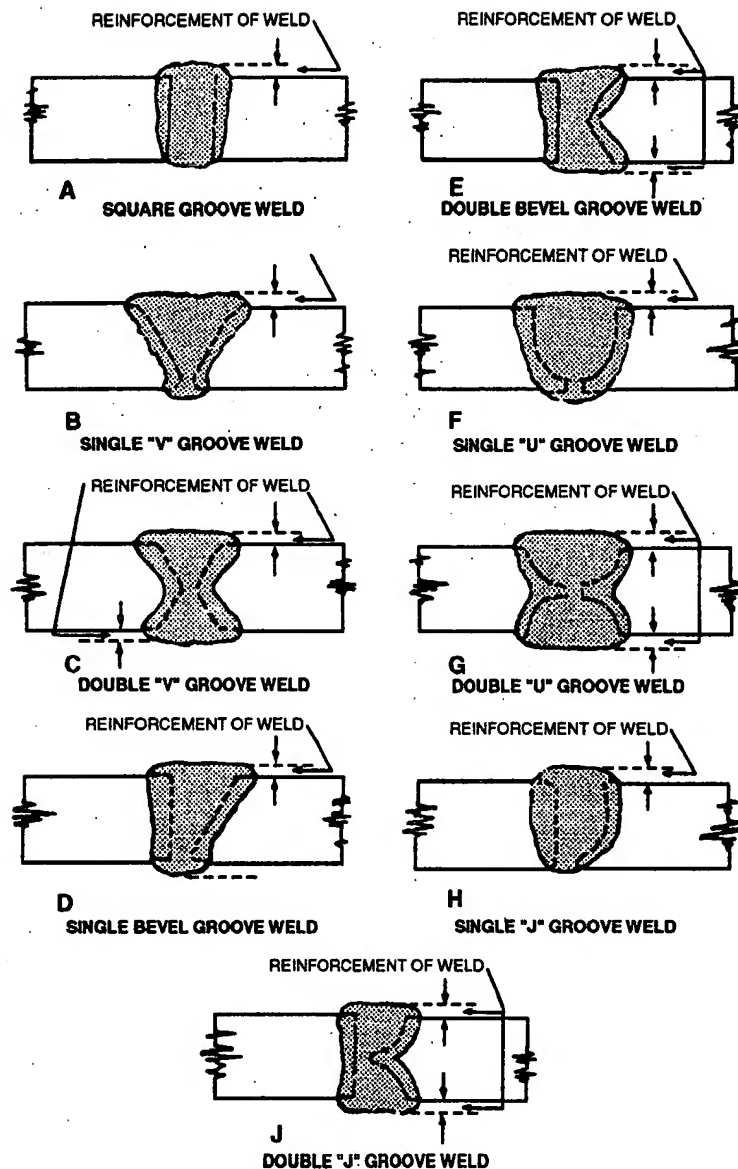

Figure 7-17.—Butt joints in the flat position.
**BUTT JOINTS WITHOUT BACKING STRIPS.**— A butt joint is used to join two plates having surfaces in about the same plane. Several forms of butt joints are shown in figure 7-17.